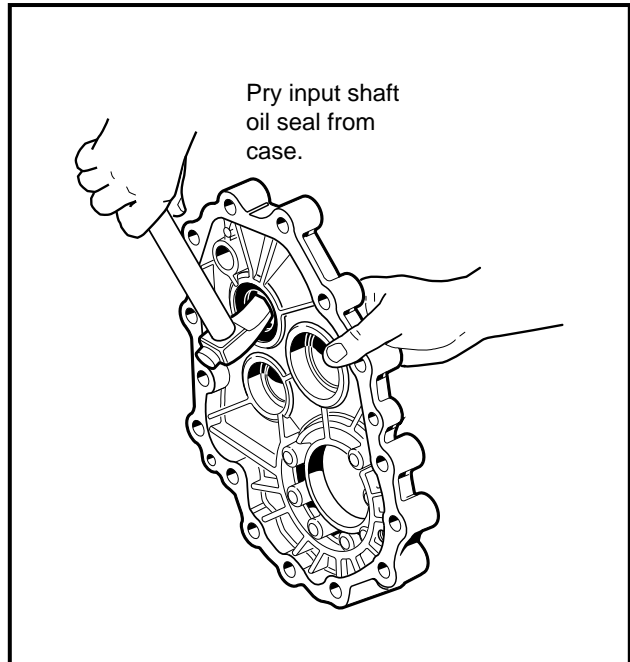

Figure 16-38 Input Shaft Oil Seal
11. Use a seal puller (CCI 1012809) or rolling head prybar to remove the input shaft oil seal from the case (**Figure 16-38, Page 16-17**).